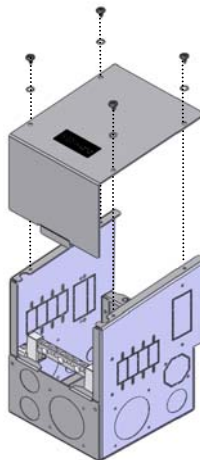

Figure 10 Attaching the FW250 Top Cover
6. Install each FW250 top cover and secure the four 10 × 3/8 sheet metal screws. See Figure 10.